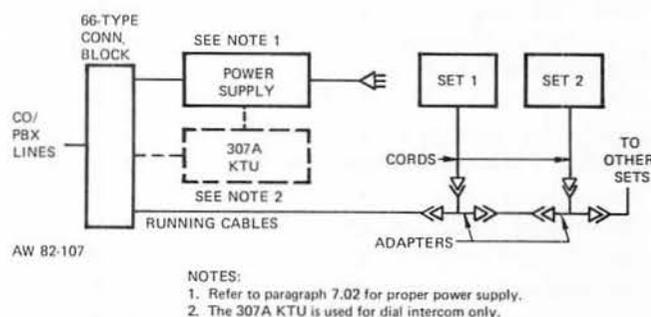

Figure 2: Optional Arrangements for 3-Line Telephones
**7.02** A different power supply is recommended for each arrangement. An ITT 41-101 Power Transformer (9 VAC output) is recommended for the first arrangement. A commercial power supply with outputs of 9 VDC, 10 VAC and a signaling voltage (Lorain T-16A or equivalent) is recommended for the second arrangement. A key system type power supply is recommended for the third arrangement, which uses a 307A rotary, dial-selective intercom circuit. The power requirements for a 307A circuit are -24 VDC, 10 VAC and if ringing voltage is required, 105 VAC, 30 Hz. (See Figure 2.)